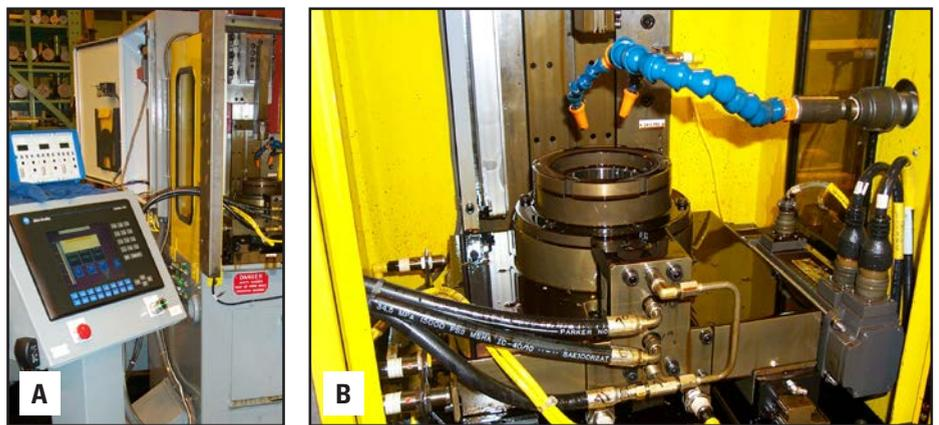

Figure 1 Shown: a) broach machine, control stand and dynamometer modules; b) control table, clamping device with test ring inside and coolant lines.
**Test set-up.** The broach test machine was developed to simulate the machine design, operation parameters, tooling material and cut design, lubricant system/type, and part geometry of a production-type broaching operation (Fig. 1). A 2-ton, vertical-surface broach machine was integrated with an automated indexing control table and three-axis dynamometer, allowing for monitoring and capture of the actual loads occurring on